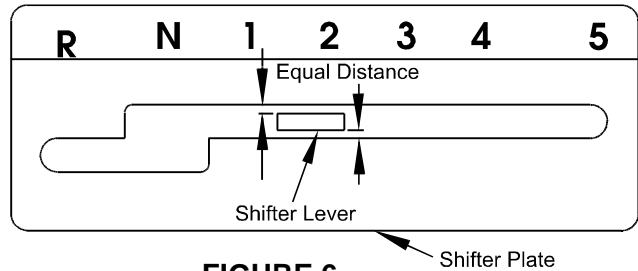

FIGURE 6
- b) Shift lever to second gear and check alignment of lever in slot of shifter plate. Clearance between top of lever and the top of the slot should be about equal to the clearance between bottom of the lever and the bottom of the slot (See Figure 6). If it is not, remove lever and bend it slightly to adjust. **DO NOT** bend lever while it is attached to transmission. Reinstall lever and tighten hardware.